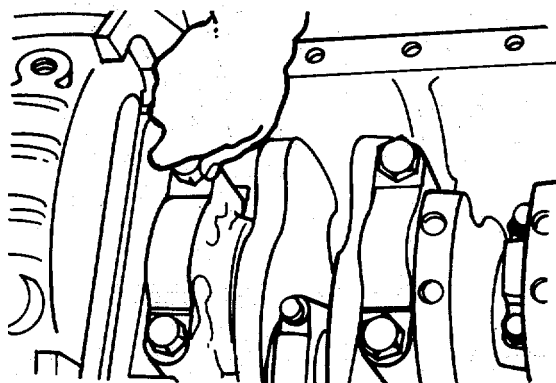

FIGURE 4-77. Check Crankshaft Rotation.
- j. Check the bearing installation and the size of the bearings if the crankshaft does not rotate freely. (FIGURE 4-77)